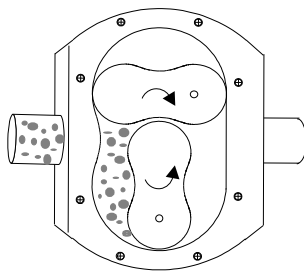

Figure 1
1. The rotors have just come out of mesh creating a reduction in pressure in the chamber which is then filled with product (Figure 1).